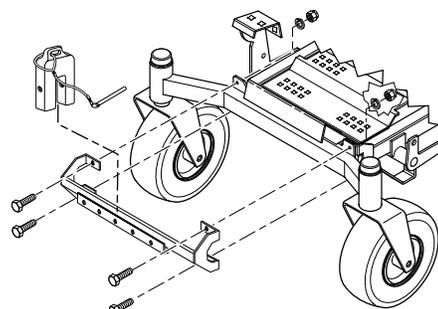

FIGURE 3-7
16. Using the weight support bar as a guide, identify the four corresponding mounting holes, and the existing hardware that will need to be removed in order to secure the weight support bar to the front of the machine as shown. See Figure 3-7.
17. Install one (1) 7/16-14 x 1-3/4" hex head bolt into each of the four mounting holes in the weight support bar, and through the matching holes in the caster support weldment. Secure this assembly to the front of the machine using the 7/16-.5" x 1-1/4" x .083" flatwashers, and the 7/16-14 elastic stop nuts. Torque hardware to 59 ft. lbs. See Figure 3-7.